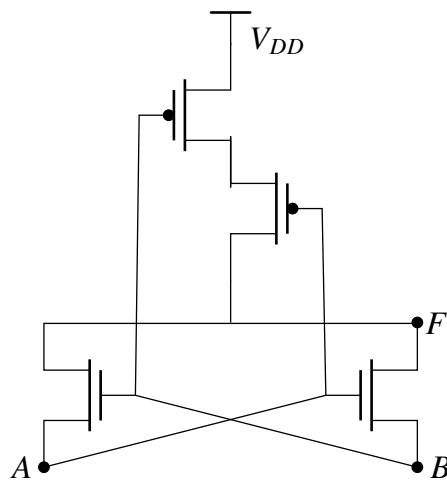

Fig. 3.23: Circuit Diagram
39. In the circuit shown in Fig. 3.23, A and B are the inputs and F is the output. What is the functionality of the circuit? (GATE-EC2019,15)